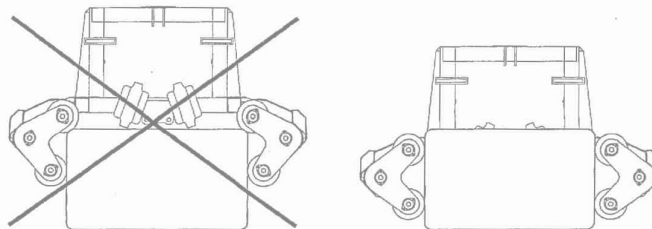

Fig. 20
A) When loading small square bales it is important to lower the rollers as close to the ground as possible. This to make all four rollers to get a grip on the side of the bale. If two of the rollers come over the bale, the machine will not be able to load it. (See Fig. 20). If necessary, adjust the position of the rollers by means of the limiting chains.